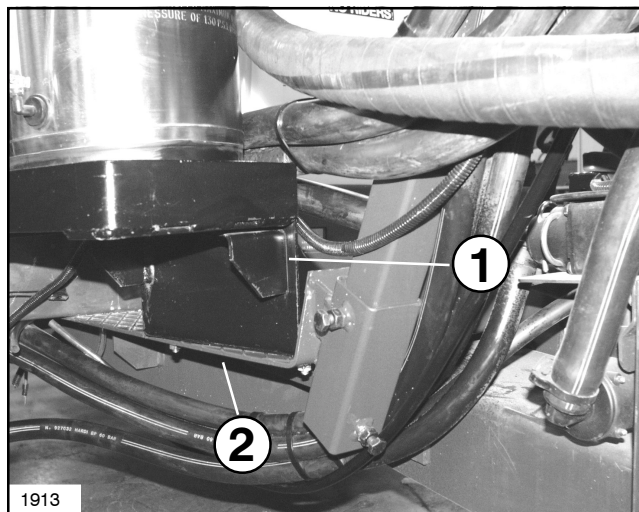

Fig. 1
2. Using the Mounting Bracket, (#100-8624 as a Template) center punch and then drill (4) four 13/32" dia. holes in the front, right corner of the Floor Plate of the Trailer. Make sure the holes are not in the location of the cross gussets under the Floor Plate. See FIG. 1.